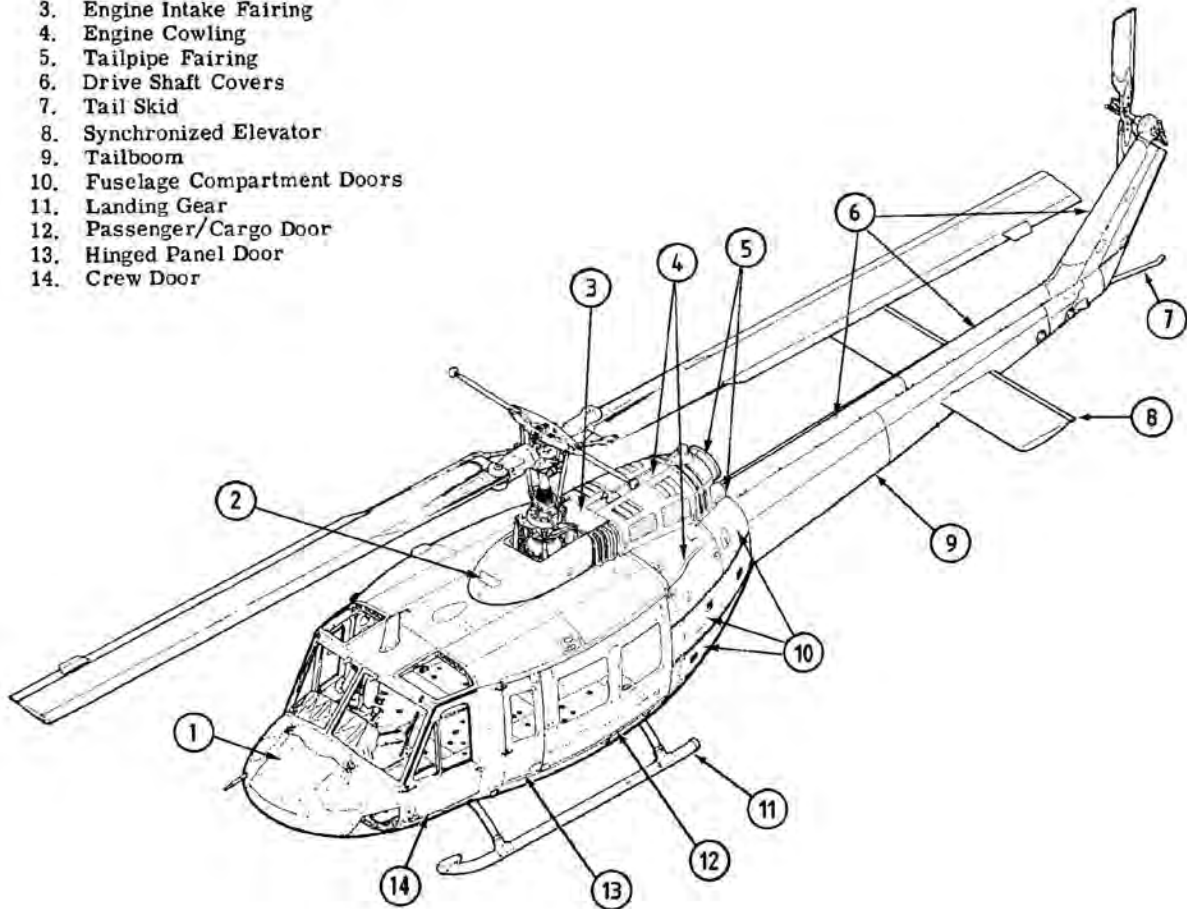

Figure 71-9. Location of Airframe Components
71.2.3.1.1 Disengage fasteners around top of the intake fairing (3, Figure 71-9) and bottom of side louvers.
71.2.3.2.1 Inspect engine intake fairing (3, Figure 71-9) for dents, cracks, or other damage.
71.2.3.3.1 Position intake fairing (3, Figure 71-9) on transmission and engine cowling.